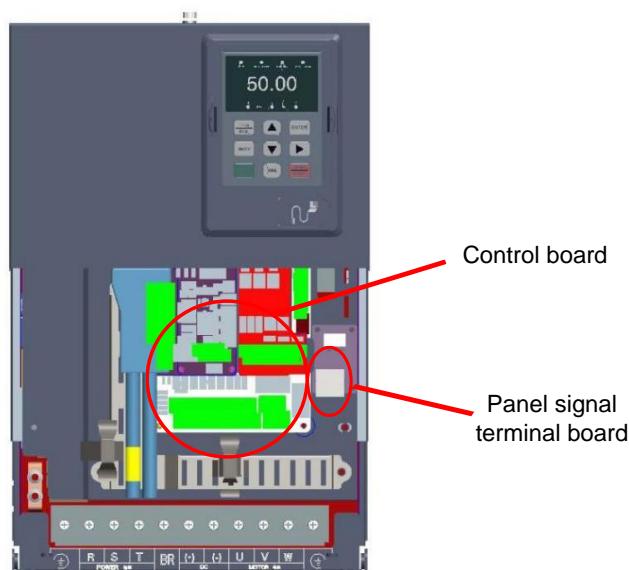

Figure 3-22 Panel signal terminal board installation diagram (models from 15kW to 355kW)
- ② For models from 15kW to 355kW, the panel signal transfer board is installed on the mount plate of the control board, as shown in Figure 3-22.